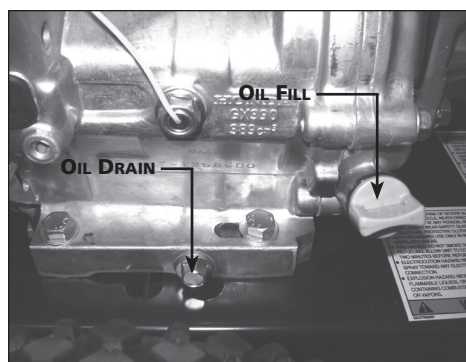

Figure 15 - Oil drain and fill locations
- Locate and remove the engine oil drain plug (See Figure 15).